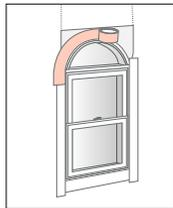

fig. 31
- b. Cut a piece for head flashing at least 12" longer than the arc of the round top/elliptical window. Remove release paper and install completely covering mounting flange and adhering to exposed sheathing or framing material (fig. 31). Use a flashing roller to assure a weather tight seal. Head flashings should cover the jamb flashing by at least 6". Secure outer edge of the flexible flashing at the head with mechanical fasteners every 6" to 12" along outer perimeter to prevent the flexible flashing from coming loose. (fig. 32)